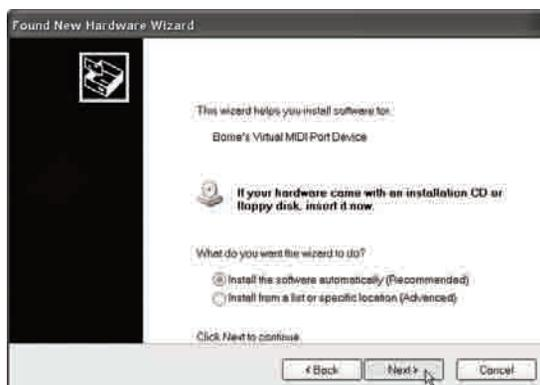

Figure 4.8
- Select *Install the software automatically* and click **Next**. (Figure 4.8)